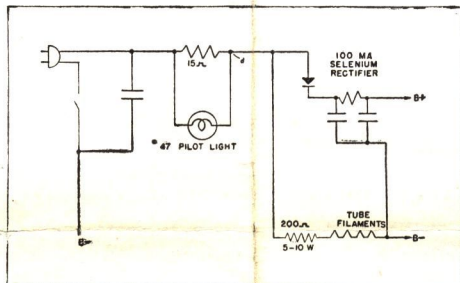

Fig. 6—One alternative method of replacing a 35Z5 with a 100 MA Selenium Rectifier.
d) Using a #47 pilot light in parallel with a 15-22 ohm resistor in series with the line input (Fig. 6).